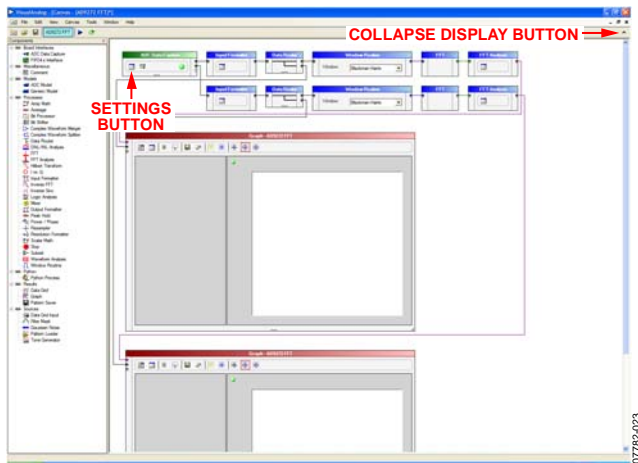
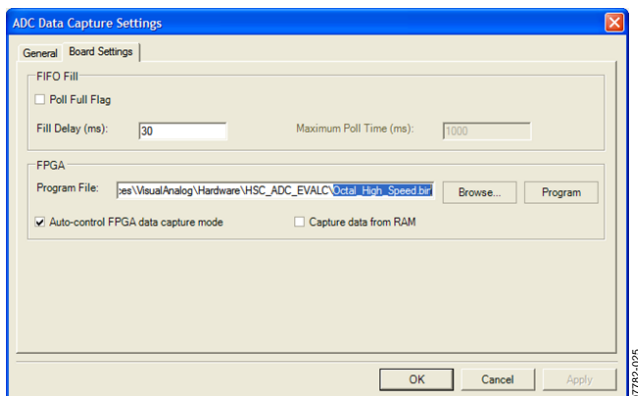

Figure 6. VisualAnalog, Main Window
Figure 7. ADC Data Capture Settings Window, Board Settings Tab
This process is described in the AN-905 Application Note, *VisualAnalog Converter Evaluation Tool Version 1.0 User Manual*. After you are finished, click the **Collapse Display** button (see Figure 6).
4. Program the HSC-ADC-EVALCZ board's FPGA to a setting other than the default setting as described in Step 3. Then expand the VisualAnalog display and click the **Settings** button in the **ADC Data Capture** block (see Figure 6). The **ADC Data Capture Settings** box opens (see Figure 7).